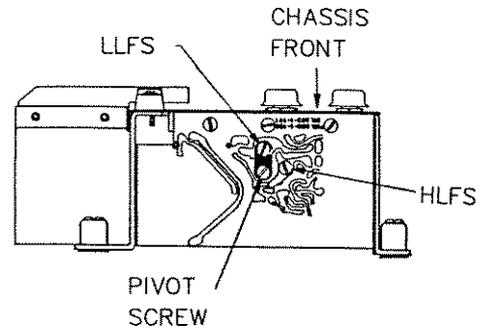

Figure 6-1
- Be sure the Fail-Safe link is in the low-level fail-safe position. See Figure 6-1.